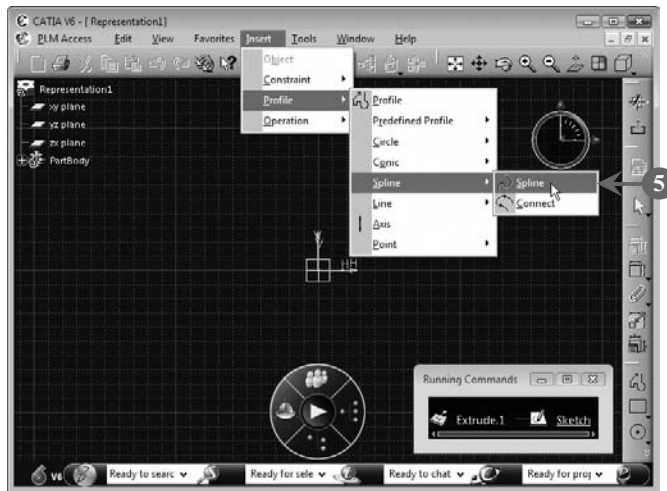

FIGURE 5.27
The Sketcher workbench is displayed with the **xy-plane** as the sketching plane (**Figure 5.27**).
5. Select **Insert > Profile > Spline > Spline** from the menu bar to draw a spline, as shown in Figure 5.27: